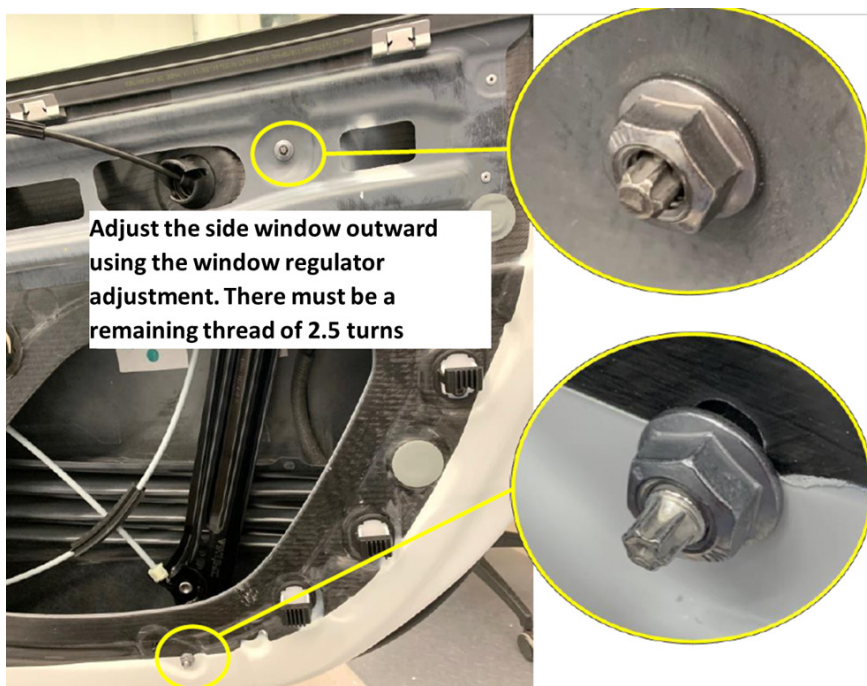

Figure 6
7. Adjust the side window outward using the window regulator adjusting bolt. (Note the values and illustration in figure 6.)